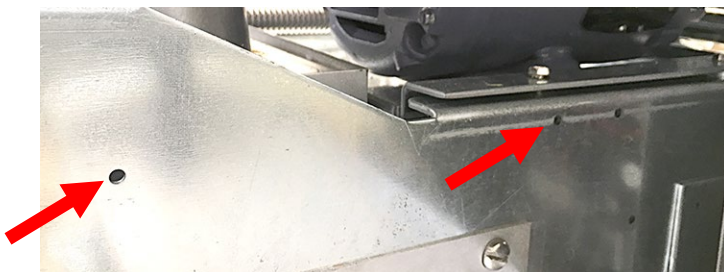
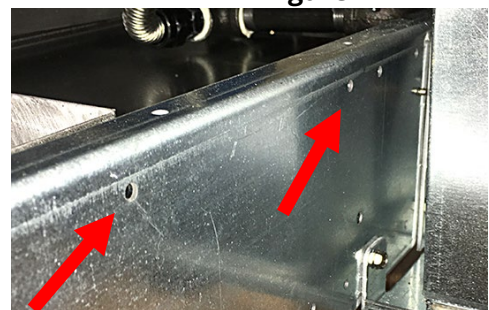

Figure 3
Figure 4
6. Locate the OQS sensor assembly mounting holes. The gas attaches to pre-drilled holes towards the front (see Figure 3). The electric attaches to the rear holes (see Figure 4). The electric attachment will require loosening the FIB box.